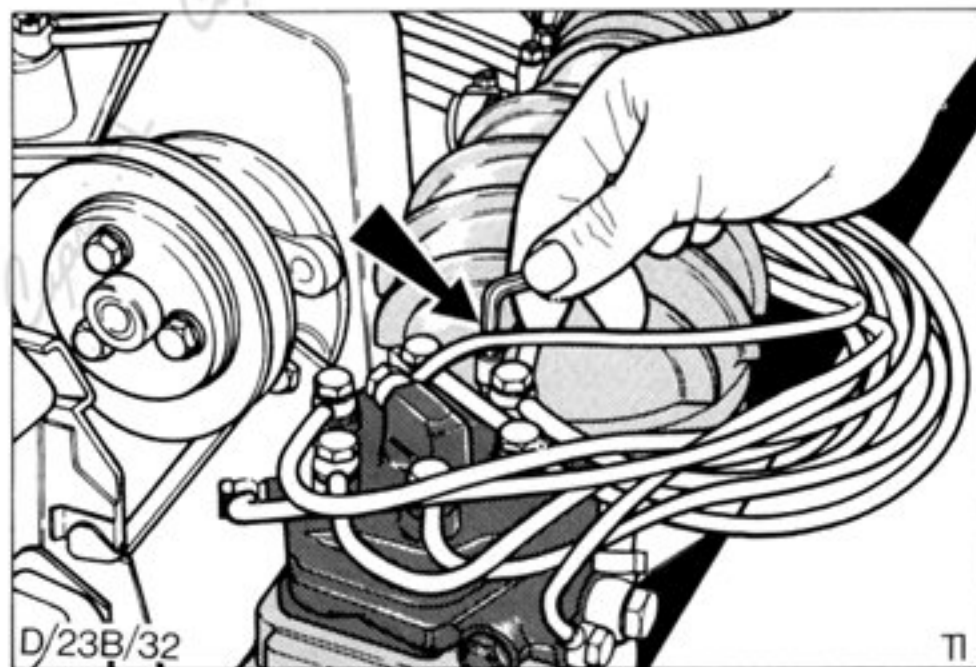

Fig.72. Idle mixture adjustment using allen key.
9. Using the 3mm allen key adjust mixture screw and idle speed screw to achieve correct % CO at the specified idle speed, Fig.72.